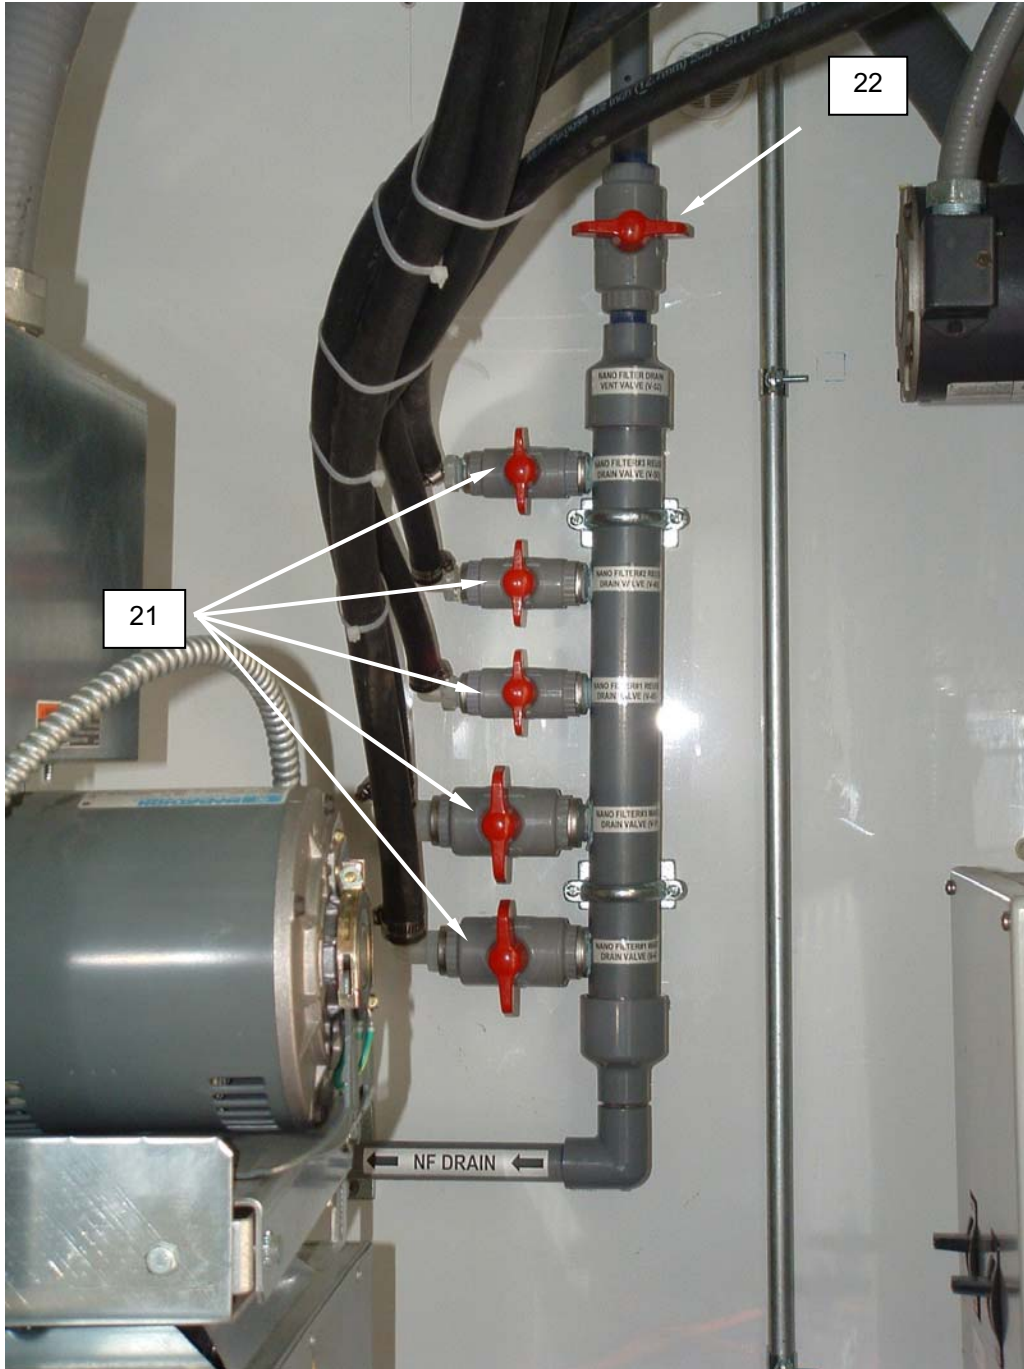

Figure 13. Vent Valves and Nanofilter Drains.
9. Close the nanofilter drain valves (V-46, V-47, V-48, V-50, V-51) (**Figure 13, Item 21**) located behind the dryers.
10. Close the drain vent valve V-52 (**Figure 13, Item 22**).